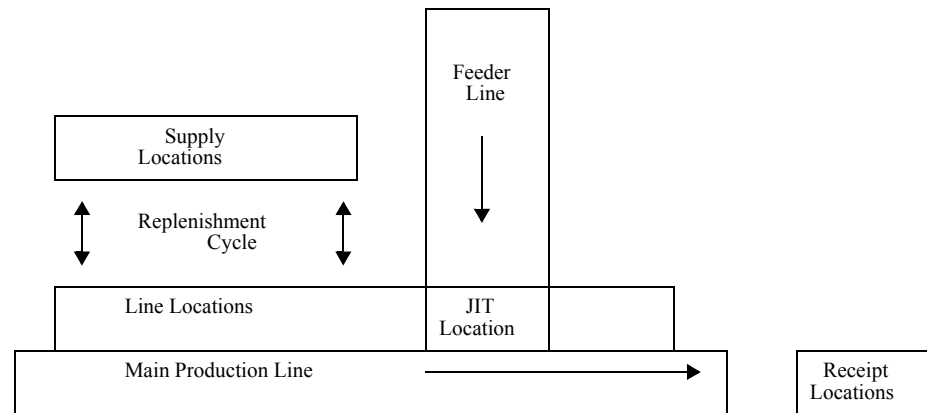

Figure 2-4. Movement between locations, no material available at the production line
Figure 2-4 shows how material flow occurs in the REP application:
- When reports of empty component containers and finished items reach the application, they trigger requests for more parts to flow from the supply locations. This is shown in Figure 2-4 by the arrows pointing back to the supply location.
KANBAN is a method of Just-In-Time production that uses standard containers or lot sizes with a single card attached to each. It is a pull system in which work centers signal with a card that they wish to withdraw parts from operations or vendors that feed them. REP provides support for both manual and electronic KANBAN, using the relationships described in Figure 2-4 on page 2-29.